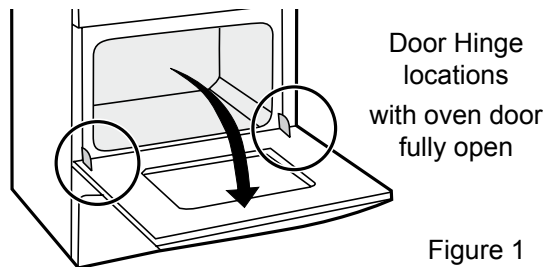

Figure 1
3. Fully open the oven door (horizontal with floor - See Figure 1).